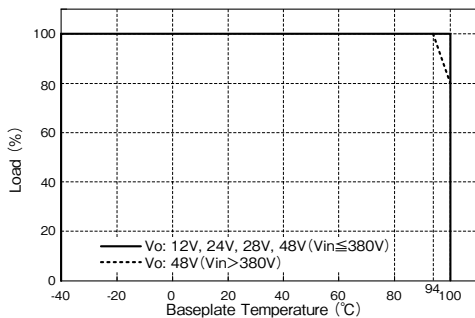
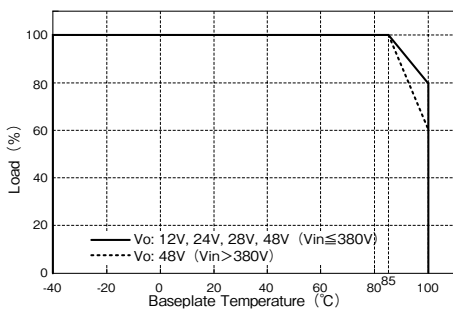

Fig.15-2 PAF450F280 Derating Curve
Fig.15-3 PAF600F280 Derating Curve
2. There is limitation on baseplate temperature range for as shown in fig.15-2 and Fig.15-3.